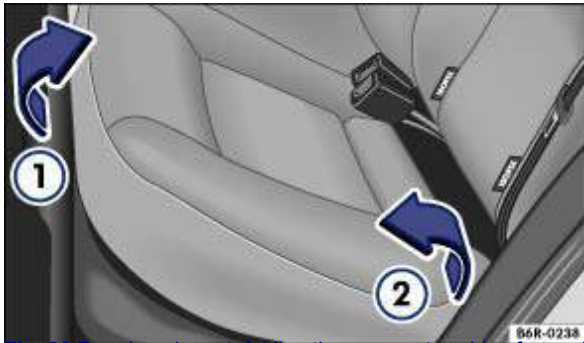

Fig. 86 Rear bench seat: folding the rear seat cushion forwards
- Pull the rear seat cushion up by the front edge in the direction of the arrow → Fig. 86 ① .
- Fold the rear seat cushion forwards in the direction of the arrow → Fig. 86 ② .